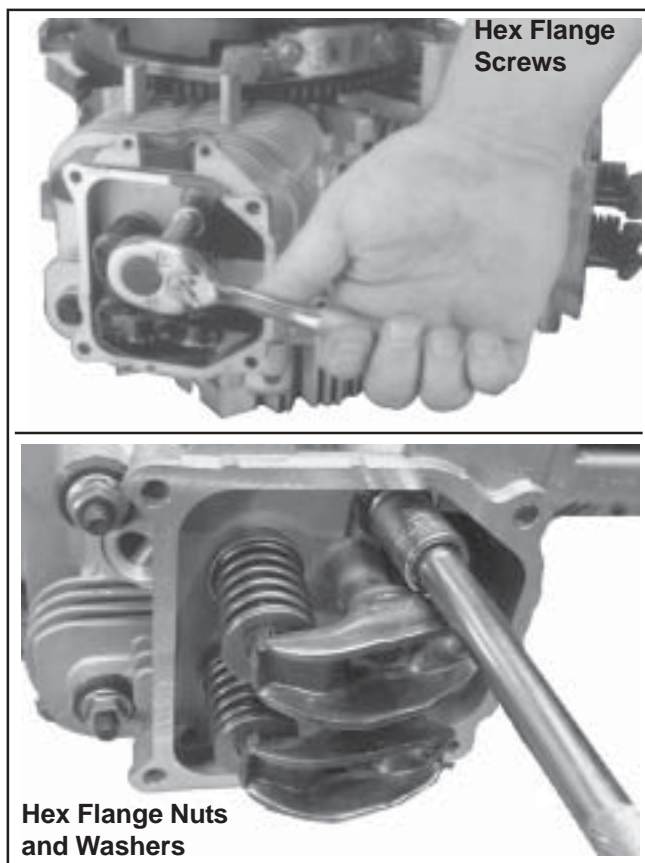

Figure 9-42. Removing Cylinder Head Fasteners.
1. Remove the four hex flange screws or hex nuts and washers securing each cylinder head. See Figure 9-42. Discard the screws or nuts and washers once removed. Do not reuse. Studs (if present) should only be removed if damaged or if cylinder reconditioning is necessary. Once removed, they must be replaced.